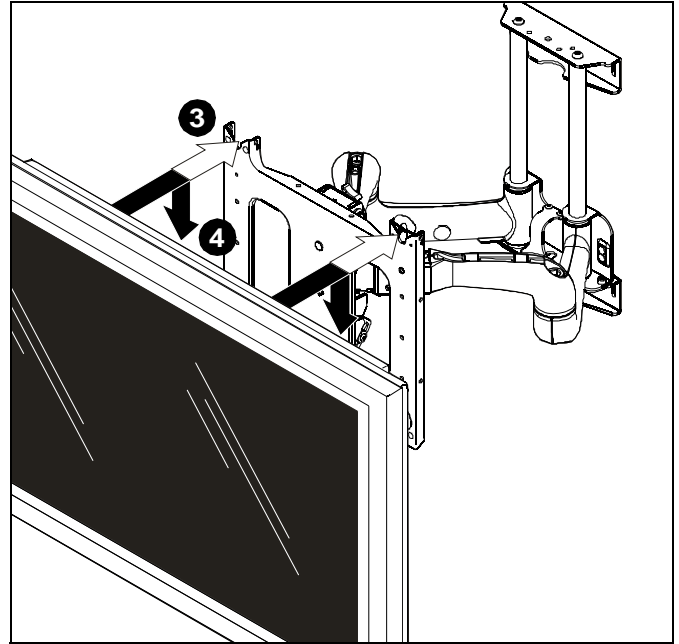
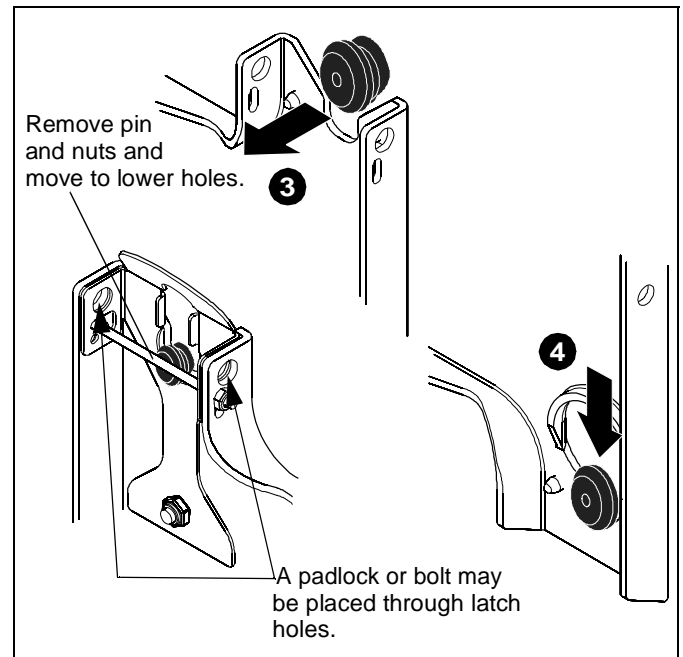

Figure 4
Figure 5
2. Move mount faceplate to extended position by grasping faceplate and pulling outward away from wall. Maximum extension is 22" (558.8mm). (See Figure 4)
3. While supporting both sides of display, align four mounting buttons on display or interface bracket with four mounting holes in faceplate. (See Figure 4)
4. Lower display into place listening for audible "click" to ensure recessed area of mounting buttons are properly seated in lower area of mounting holes and ClickConnect mechanism engages. (See Figure 4) and (See Figure 5)
**NOTE:** Holes are provided in the faceplate for use with a padlock or similar locking device, if desired. In addition, the pin and nut may be removed from the upper holes and moved to the lower holes for use as a more permanent locking device. (See Figure 5)